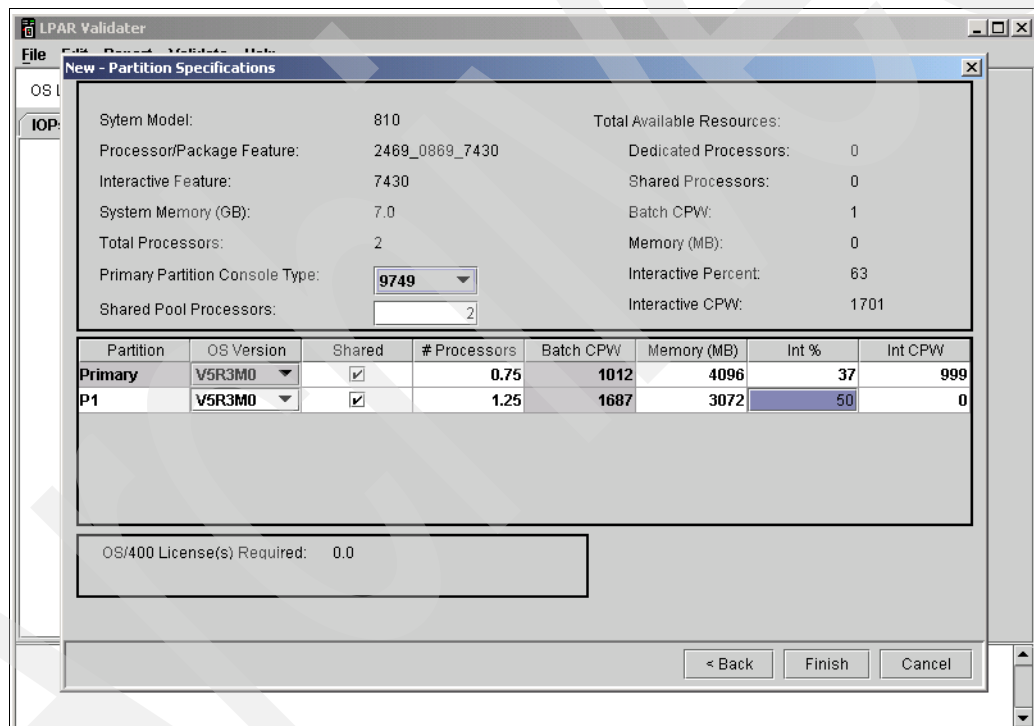

Figure 9-5 Example window Partition Specifications
- c. Complete the **Partition Specifications** window (each option described below) and click **Finish** (Figure 9-5).
- vi. **Memory (MB):** Enter amount of memory required by the partition in Mega Bytes.